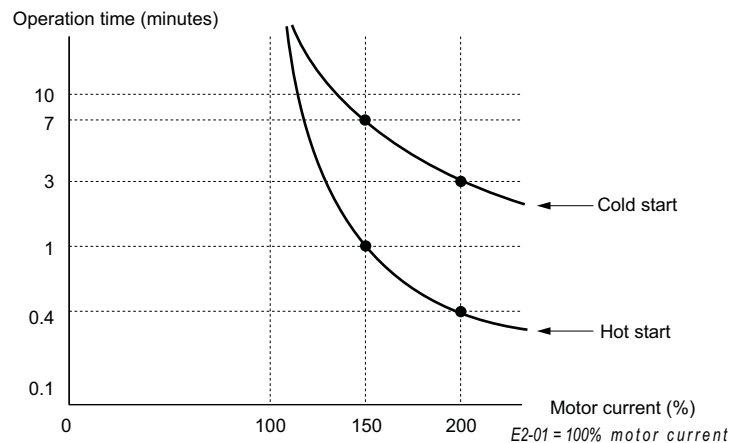

Figure 5.65 Motor Protection Operation Time
- **Figure 5.65** shows an example of the electrothermal protection operation time using a general-purpose motor operating at 60 Hz with L1-02 set to one minute.